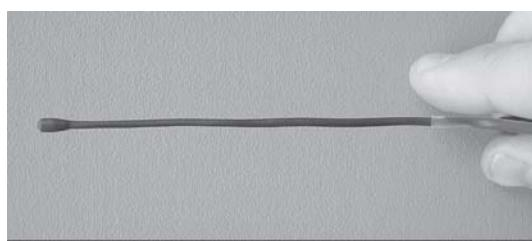

Figure 6
1. Shape the boom: Figure 6 shows the microphone boom as received. Before placing the microphone over the user's ear, apply a slight bend to the boom, starting at the middle of the earhook, to aid the microphone boom in forming to the user's face.